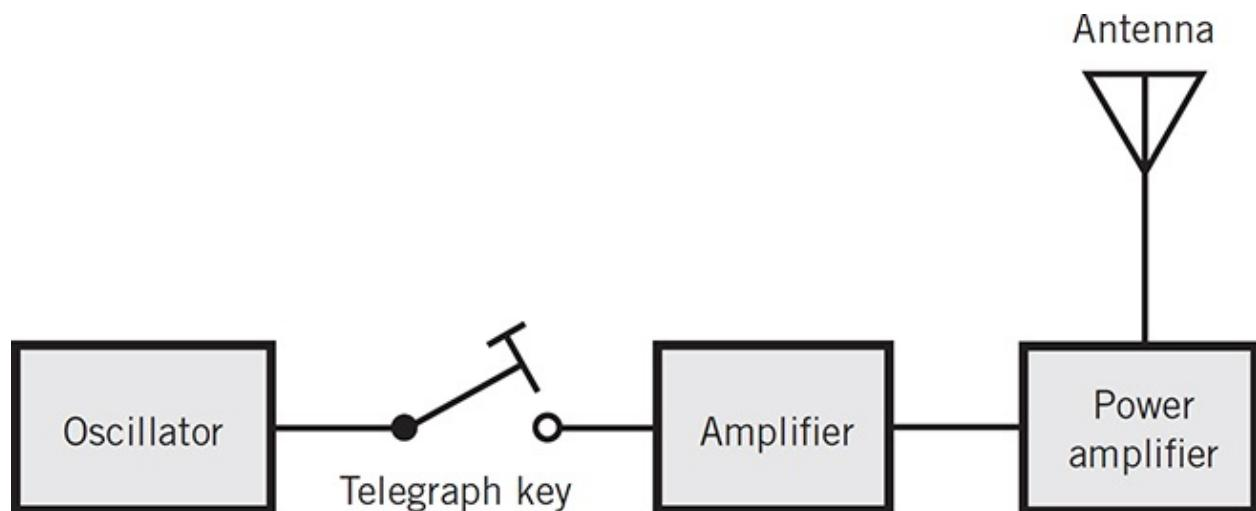

FIG. 1-1 Block diagram of a radio transmitter that can send signals in Morse
- A *block diagram* gives you an overview of how the individual circuits in a system work together. You'll see each circuit represented as a "block" (rectangle or other shape, depending on the application). Interconnecting lines, sometimes with arrows on one or both ends, show how the circuits combine to form the whole system, and how currents and signals flow among those circuits. Figure 1-1 is a simple example.